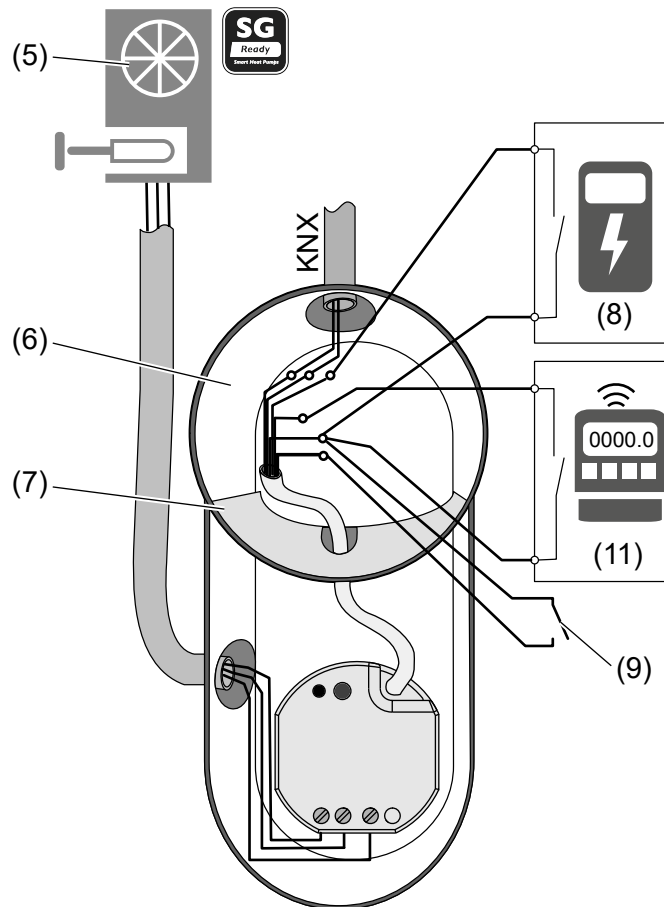

Figure 5: Connection example, application 3
- Connect the potential-free contact of an inverter without a Smart Grid Ready interface (8) to **E1** and **COM** (see figure 5).
- Connect the potential-free contact of a smart meter (10) to **E2** and **COM** (see figure 5).
- Connect the potential-free contact (9) to **E3** and **COM** (see figure 5).
- Mount the device (see figure 5).